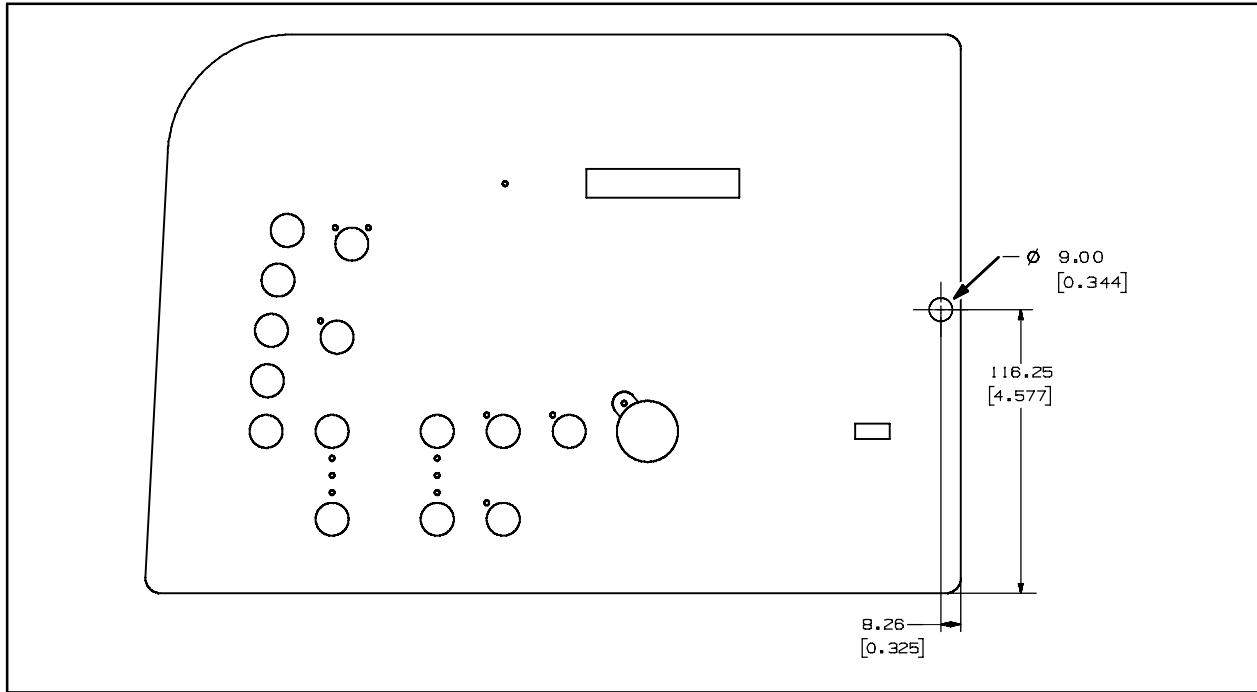

FIG. 5
31. Drill a 11/32" (0.344") hole through the instrument panel assembly. Refer to Fig. 5.
35. Insert the *ec-H20* warning light into the 11/32" (0.344") hole. Refer to Fig. 5.